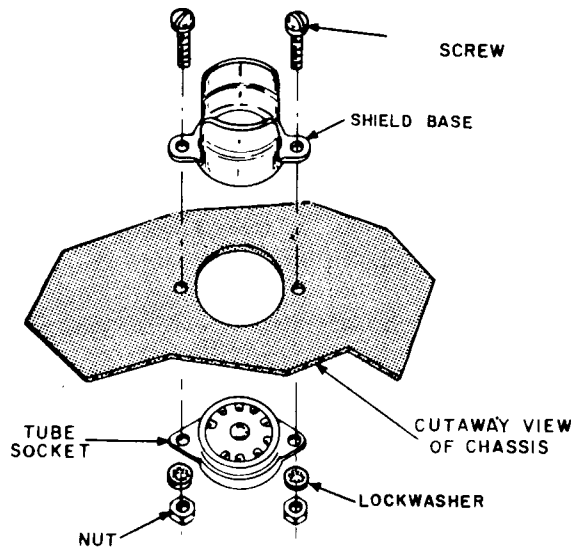

FIGURE 3. SHIELD BASE MOUNTING
- ☑ Four 9-pin tube sockets and four shield bases for V-1 through V-4. The socket with the center pin is V-1. Position the shield bases on top of the chassis and the sockets on the bottom with the keyways positioned as shown. Mount each with two 4-40 x $\frac{1}{4}$ " screws, #4 lockwashers and nuts as shown in Figure 3.